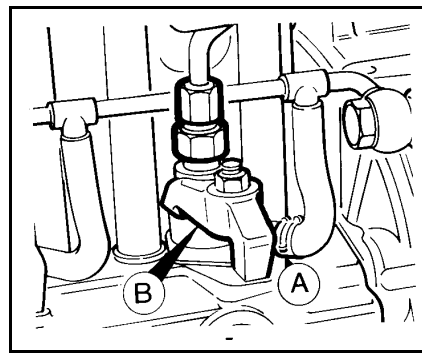

Fig. 7 Priming a Fuel Pump
5. Refer to Fig. 7 and hold the delivery valve holder (B) with a spanner and slacken the injector pipe nut (A) until no air bubbles are expelled.